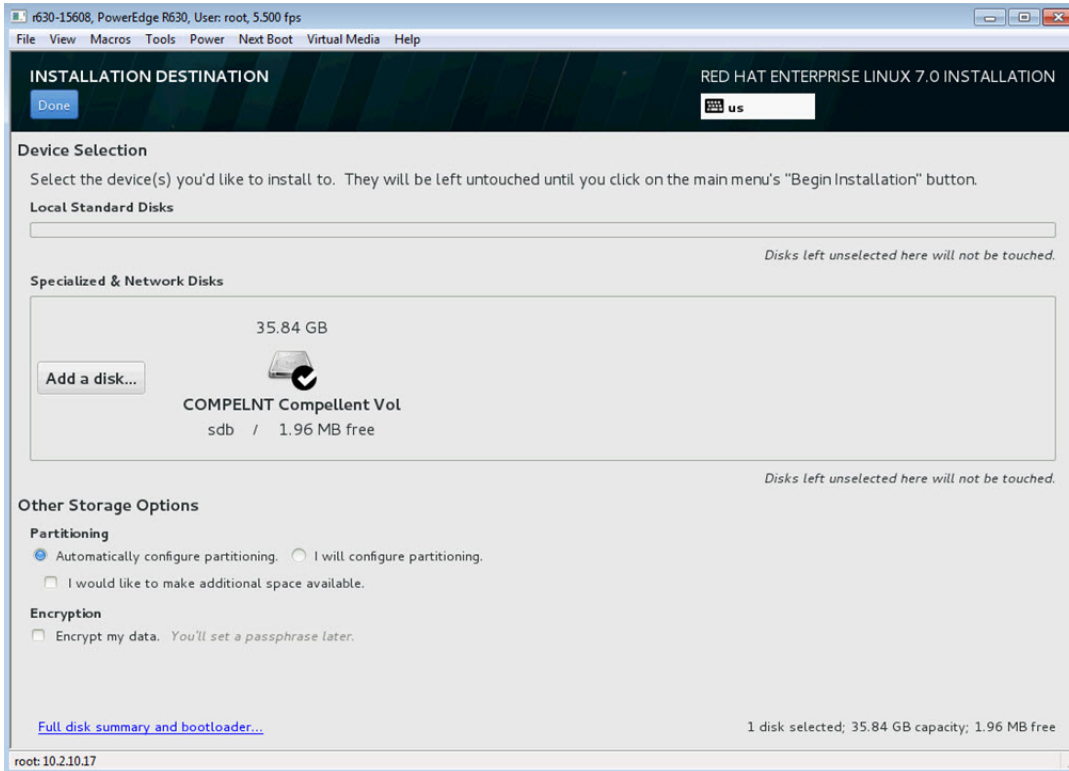

Figure 14-21. Selecting Partitioning Options
13. On the Installation Destination window (Figure 14-21) under **Other Storage Options**, select your **Partitioning** options, and then click **Done**.